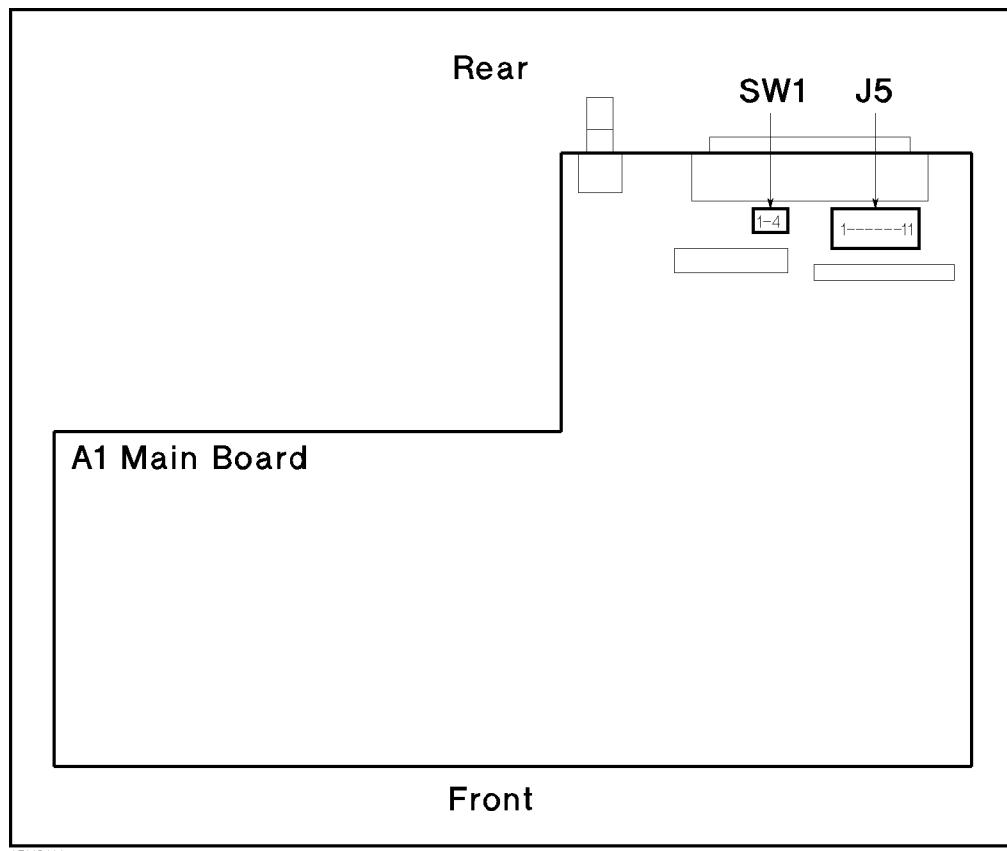

Figure B-4. A1 Main Board
Figure B-4 shows the location of the socket to mount the pull-up resistors (J5) and the switch to select the voltage value of EXT DCV2. Table B-3 lists the socket numbers to mount the pull-up resistors for each control signals and comparison signals.
6. Mount the pull-up resistors for the comparison output signals. (Refer to Figure B-4 and Table B-3 for the location of the pull-up resistors for the comparison output signals.) Use the following equation to determine the value of the pull-up resistors (R).
7. Mount the pull-up resistors for the control output signals. (Refer to Figure B-4 and Table B-3 for the location of the pull-up resistors for the control output signals.) Use the following equation to determine the value of the pull-up resistors (R).